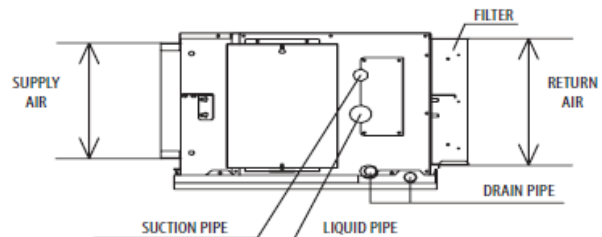

Fig. 4 - Unit Piping Locations
- The liquid line and suction line should run according to the piping design shown in Fig. 4.